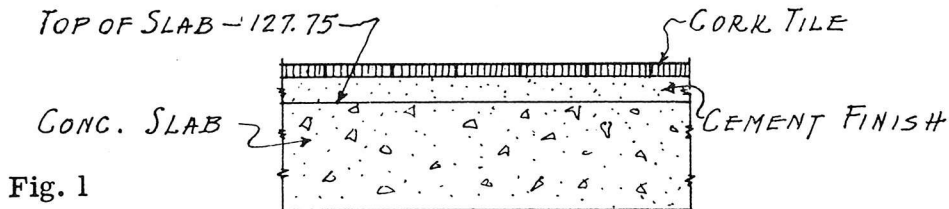

Fig. 1
1. If the elevation at the top of the concrete slab in Figure 1, is 127.75 ft., what will be the elevation at the top of the cork tile floor, if the tile is $1\frac{1}{2}$ " and the cement finish is $1\frac{1}{4}$ " thick?
2. Figure the elevation for the cork tile floor in Figure 1, if the tile is $\frac{3}{16}$ " and the cement finish elevation is 141.23 ft.
3. Two cement finishes are to be put on top of the concrete slab in Figure 1. If they total $\frac{3}{4}$ " in thickness, what will be the finished floor elevation, if the concrete slab elevation is 113.45 feet?